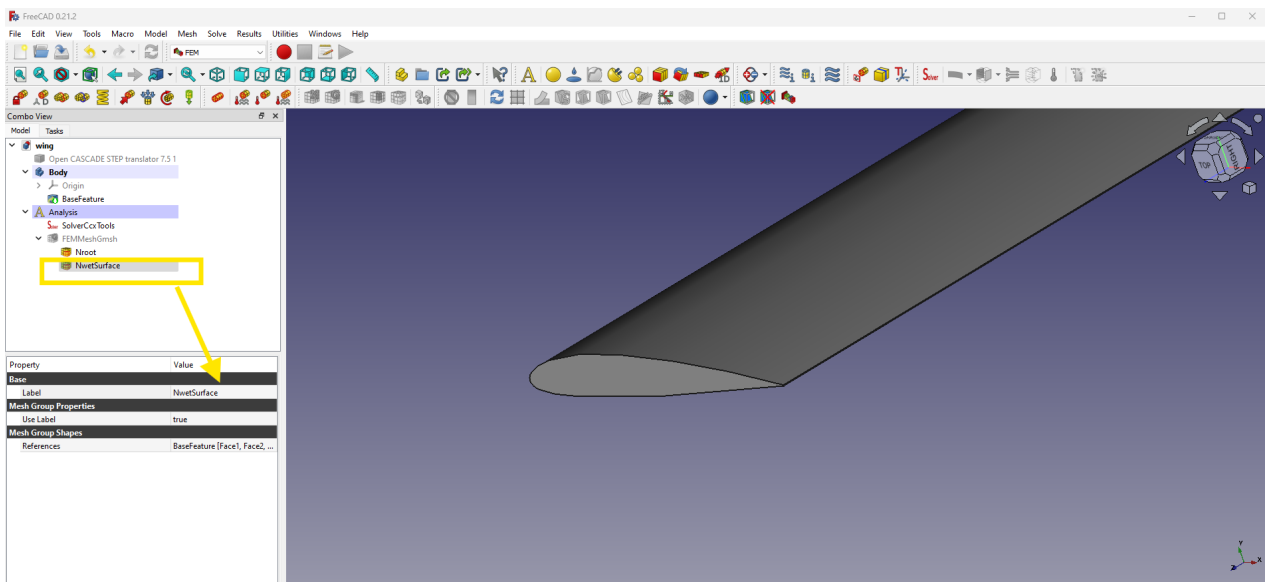

Figure 21: FreeCAD: Rename wet surface group
- As for the **root Group**. Change the **Label** in the **Properties** to **NwetSurface** (Figure 21).